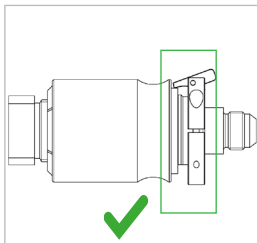

Figure 3
- The connector must engage with a clearly audible click of the sliding sleeve lock (Pos. 2) (Figure 3).